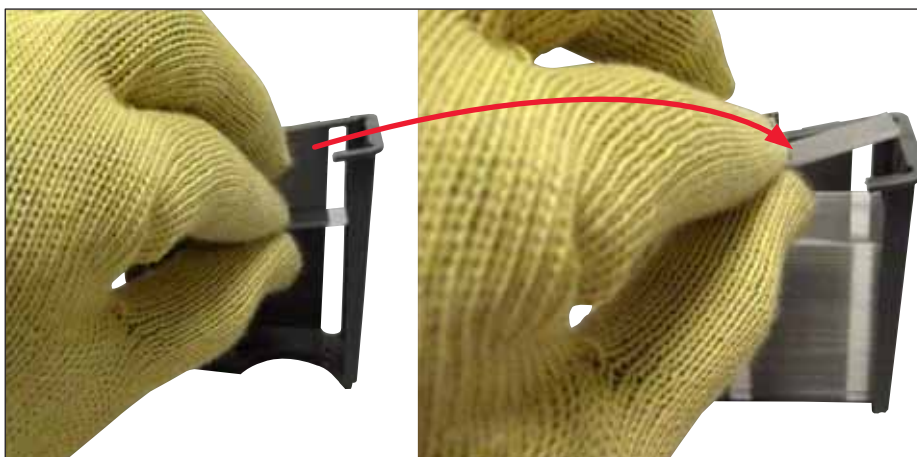

Fig. 64
- Ensure that the coverglass is inserted correctly in the magazine (→ Fig. 64).